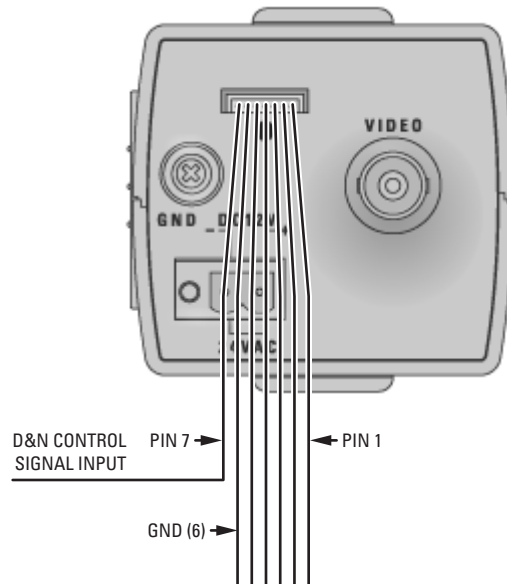

Figure 6. Day/Night Filter Control Configuration
To connect an external day/night filter switch to the camera refer to Figure 6, and then complete the following steps:
2. If necessary, use a small Phillips screwdriver to remove the connector cover from the rear panel (refer to Figure 6).